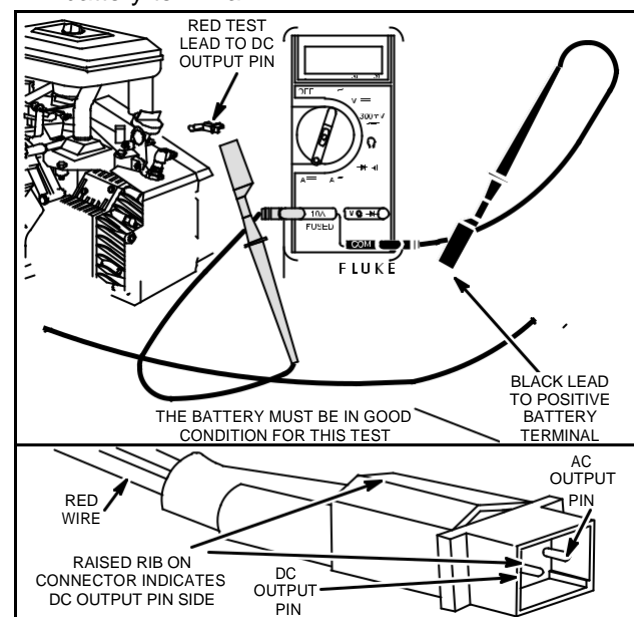

Fig. 16 – Testing DC Output
4. Attach RED test lead clip to DC output pin in connector, Fig. 16.